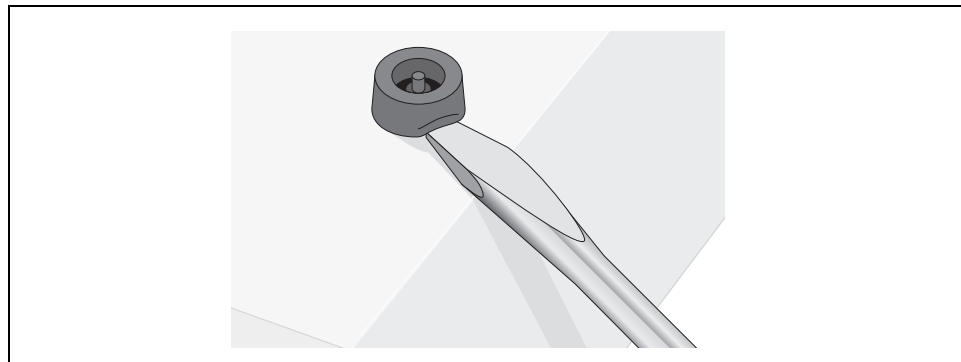

Figure 23. Removing the Feet
2. Using a flat-head screwdriver, remove the snap-on plastic feet from the bottom of the switch, as shown in Figure 23.